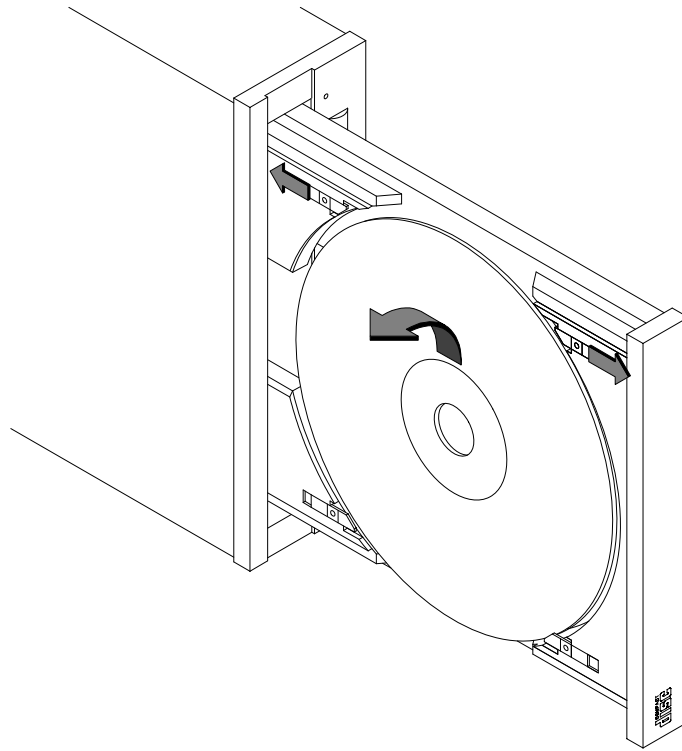

Figure 2-7. Removing a CD-ROM Disc from the Disc Tray (Vertical Mount)
- 2.** Slide the two top disc holders away from each other and swing the top of the disc away from disc tray, as shown in Figure 2-7.